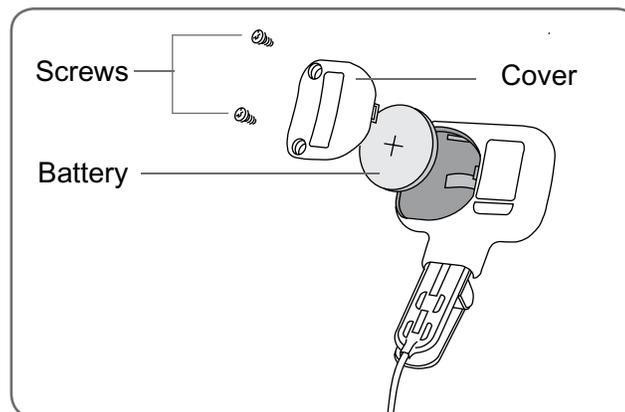

Figure 14-1: Replacing the Intelli-Sense Gait Sensor battery.
1. On an open, clean surface, remove the screws from the battery cover. See Figure 14-1.